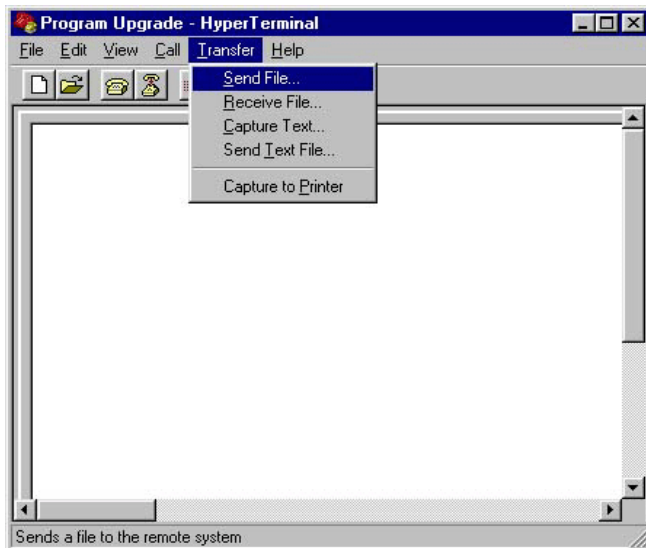

Fig. 6
7. In the "Program Upgrade - HyperTerminal" window, go to "Transfer" and then choose "Send File" like Fig. 6.